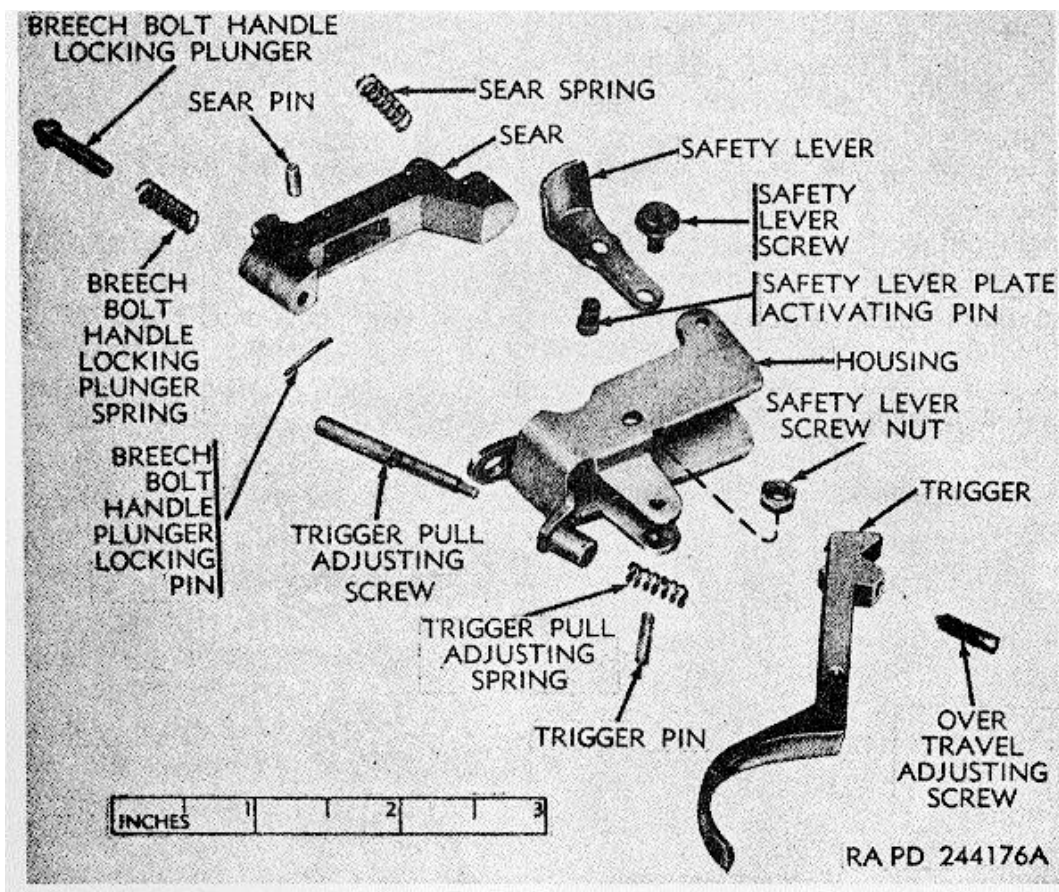

Figure 61. Housing assembly-exploded view (Winchester rifle M52 (HB) ).
- (1) Unscrew magazine holder front and rear screws from the bottom of the receiver, and remove the magazine holder assembly. Remove breech bolt guide (ejector) from ejection opening of the receiver.
- (2) Drift the magazine catch pin out of the side of the holder, and remove magazine catch and spring.
- (3) Disengage the rear loop of the safety lever spring (M) from the right end of the safety lever plate activating pin, and loosen the safety lever screw a few turns until the safety lever can be lifted off the right end of the safety lever plate activating pin. Removing the safety lever from the activating pin disconnects the housing assembly from the safety lever plate.
- (4) Remove the front housing screw (K) and nut (B) from the receiver.
- (5) Remove the rear housing screw (N) and two washers (P) from the receiver.
- (6) Disconnect the safety lever plate from the protruding sear pin by pushing the safety lever plate activating pin (fig. 61) forward.
- (7) Remove housing assembly (L) from its opening in the receiver and remove the small sear spring.
- (8) Unscrew the safety lever screw and nut and remove safety lever (fig. 61) from the center of the housing.
- (9) Drift out trigger pin from the bottom of the housing and remove the sear and the trigger (fig. 61) as a unit from the top of the housing. Remove over-travel adjusting screw from the trigger.
- (10) Remove the trigger from its aperture in the center of the sear. Remove breech bolt handle plunger locking pin (fig. 61) from the plunger and slide out plunger and plunger spring from the sear.
- (11) Slide the trigger pull adjusting spring (fig. 61) from the bottom of the trigger pull adjusting screw and remove screw from housing.
- (1) Using the screwdriver 5564038 (fig. 43), screw the trigger pull adjusting screw (fig. 61) into its hole in the front of the housing, and slide its spring over the protruding bottom end of the screw.
- (2) Place sear spring in its seat in the front of the sear (fig. 61). Insert breech bolt handle locking plunger spring in its seat in the front of the sear and insert the locking plunger through the spring; compress the spring and secure in place by installing breech bolt handle plunger locking pin (fig. 61) in hole in bottom of plunger.
- (3) Screw the over-travel adjusting screw (fig. 61) into its hole in the trigger and insert top of trigger through its hole in the sear.
- (4) Install assembled sear and trigger through the top of the housing (fig. 61) and align trigger pin holes in trigger and housing and insert trigger pin through housing and trigger.
- (5) Align safety lever (fig. 61) with its hole in the housing, and see that lever
- (6) Install safety lever screw (screw head to the right) through the lever and the housing and secure both of them to the right side of the housing by placing the safety lever screw nut (fig. 61) to the left of the screw and housing wall and by tightening the screw a few turns.